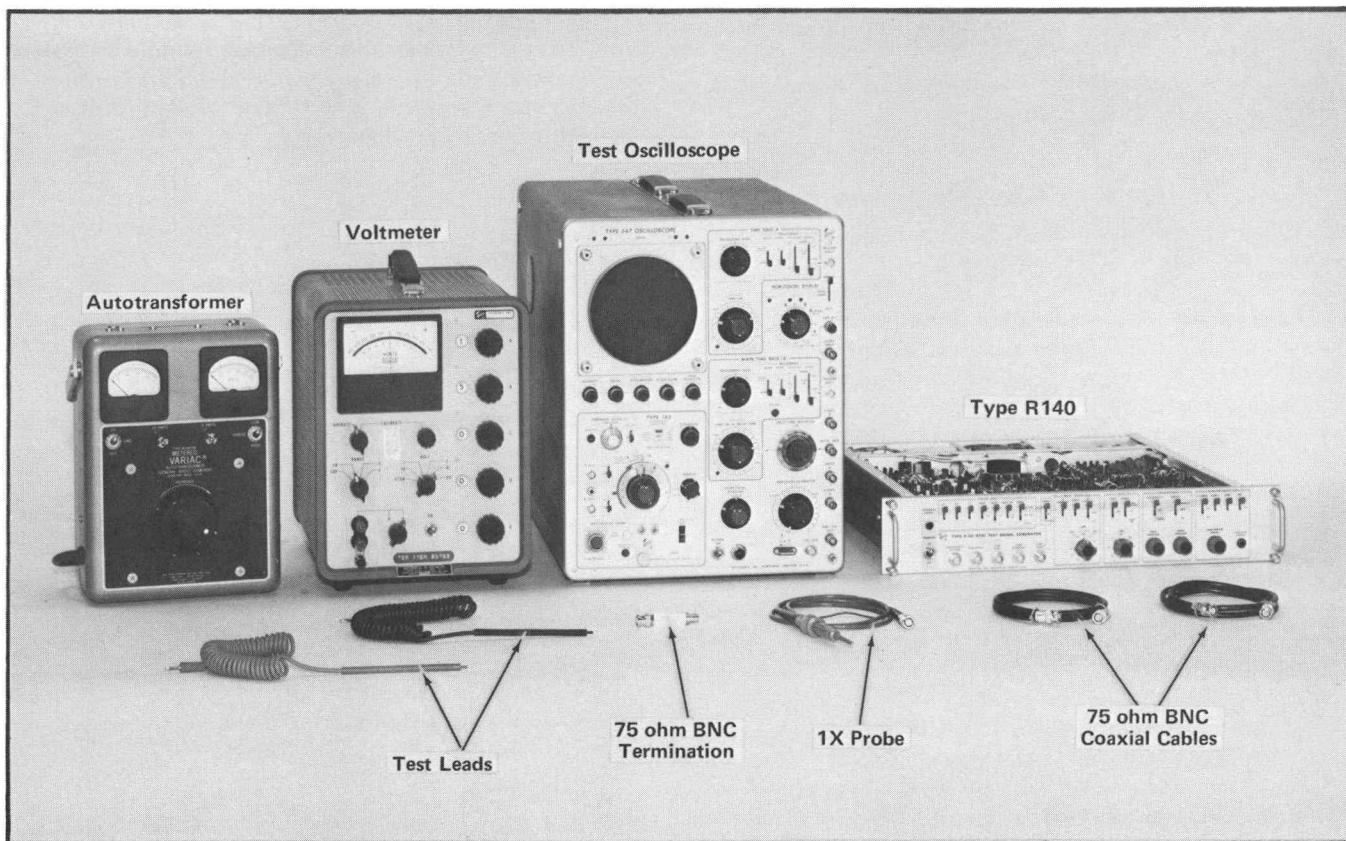

Fig. 5-1. Test equipment required for steps 1 and 2.
6. Set the Type R140 and test equipment controls as described following Fig. 5-1.
- Test equipment is shown in Fig. 5-1.